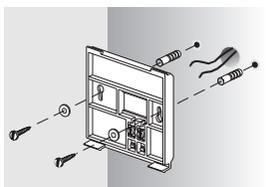

figure 5-3
9. Mount the mounting plates with the screws and washer against the wall. Do not fasten the screws too tightly. The mounting plate may not deform! (refer to figure 5-3).